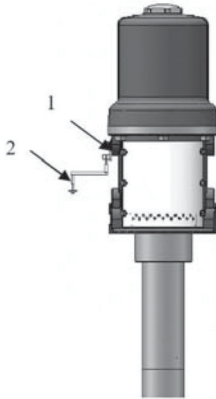

Fig. 2: Grounding guide
**Pump:** Use a ground wire and clamp as the Fig.2. Loosen the locknut and place one end of a ground wire on pump ground connection and secure the other end to ground.